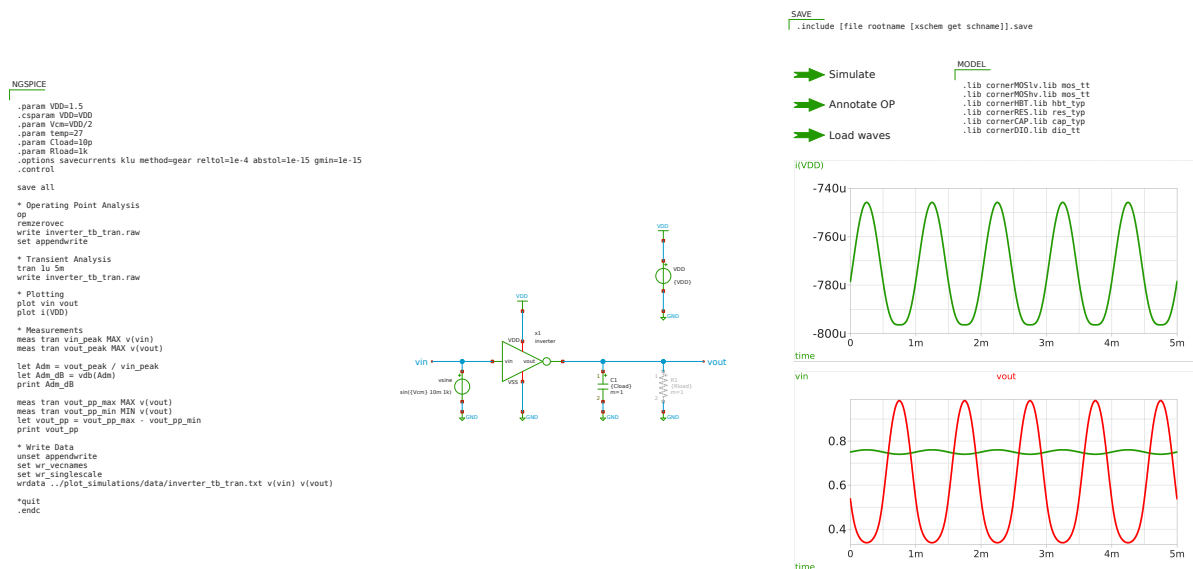

Figure 8: Xschem testbench `inverter_tb_tran` (single-channel transient response on inverter).
- inverter_tb_tran.sch, single-channel transient response (see Figure 8),